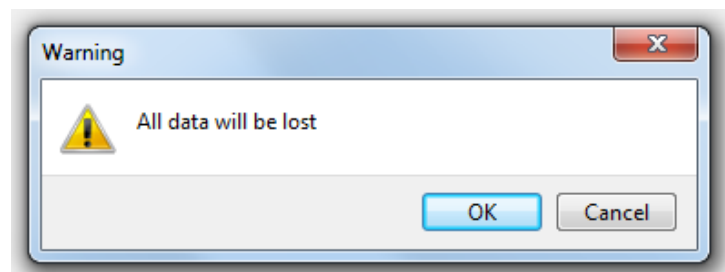

Fig. 22 Data loss warning.
- Select: **OK** to start uploading of the update (Fig. 22).